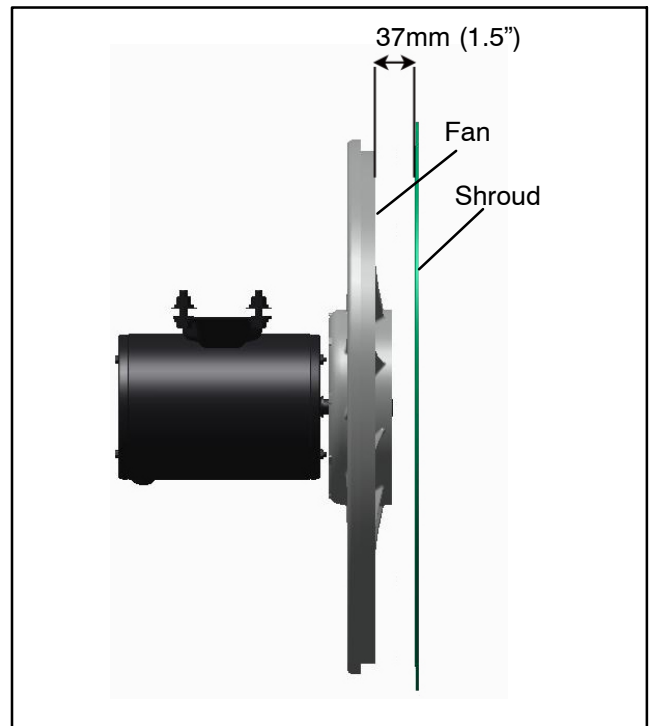

Figure 6-16 Condenser Fan Position
- r. Remove the condenser fan, and place it on the shaft facing the correct direction. Adjust the fan to the correct position, 37mm (1.5") from the fan shroud, see Figure 6-16.
- l. Place the condenser fan on the shaft facing the correct direction. Adjust the fan to the correct position, 37mm (1.5") from the fan shroud, see Figure 6-16.